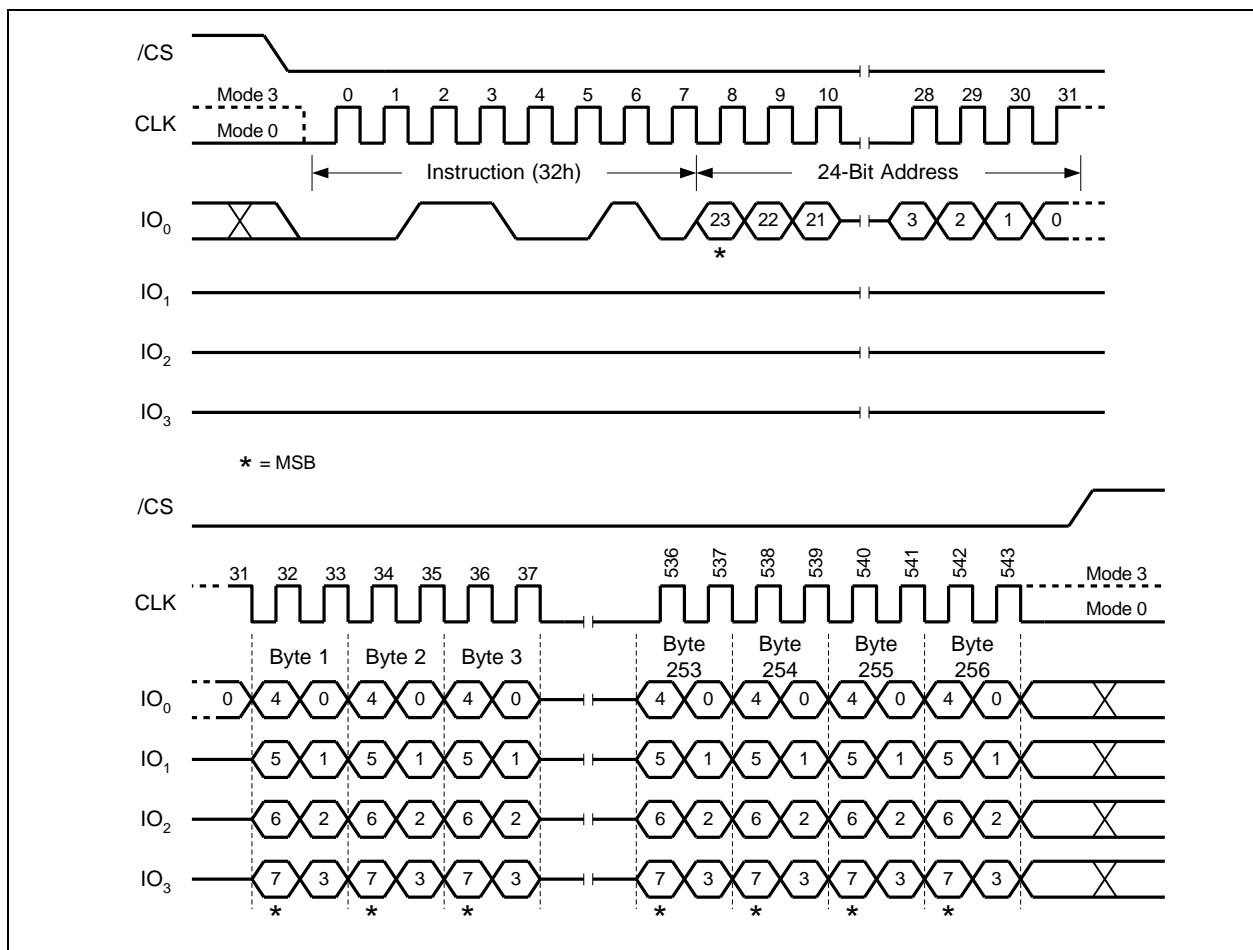

Figure 30. Quad Input Page Program Instruction (SPI Mode only)
To use Quad Page Program the Quad Enable (QE) bit in Status Register-2 must be set to 1. A Write Enable instruction must be executed before the device will accept the Quad Page Program instruction (Status Register-1, WEL=1). The instruction is initiated by driving the /CS pin low then shifting the instruction code “32h” followed by a 24-bit address (A23-A0) and at least one data byte, into the IO pins. The /CS pin must be held low for the entire length of the instruction while data is being sent to the device. All other functions of Quad Page Program are identical to standard Page Program. The Quad Page Program instruction sequence is shown in Figure 30.